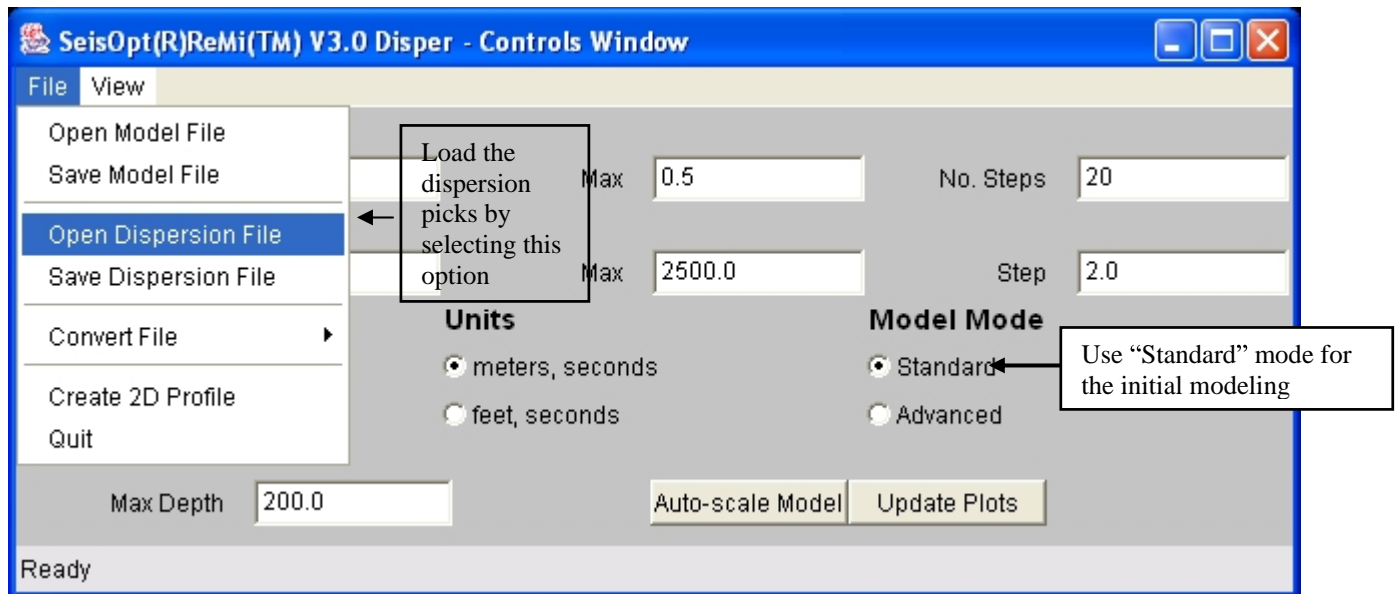
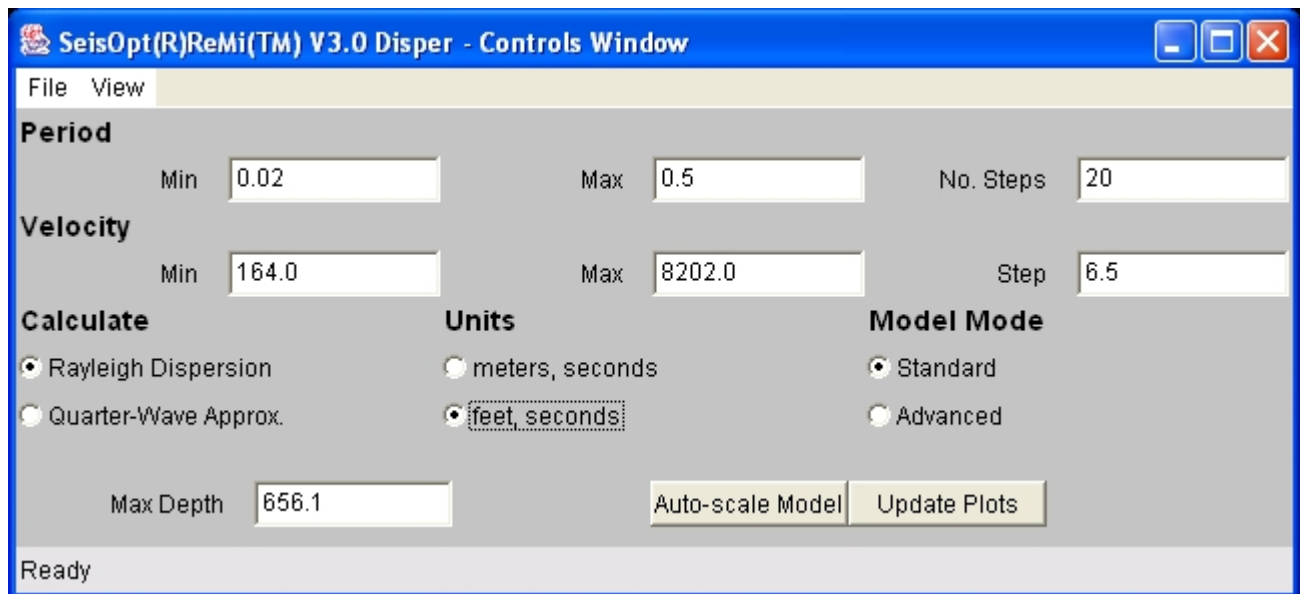

Figure 50: Choose the Open Dispersion File option to load the dispersion picks
Figure 53: Select 'feet, seconds' to do the modeling in units of feet/second
Window' (Figure 50). You can also load the file using the "Open Dispersion File" under the "File" menu in the 'Dispersion Curve' window. If you plan to model the velocity in units of feet/second, make sure you toggle the 'Units' option to that in the 'Controls Window' (Figure 53). It is recommended that the modeling be done using the "Standard" model mode first. If P-wave velocities are available, then the shear-wave velocities can be refined in the "Advanced" model mode.
- If you wish to model the velocities in feet/sec, toggle the 'Units' option in the 'Controls Window' to feet per second (Figure 53). The velocities displayed in the 'Model Profile' (Figure 54a) and the 'Dispersion Curve' window will change accordingly (Figure 54a). Note that the 'Velocity Step' in the 'Controls Window' will also change. It is recommended that this value not be changed during processing. The only time this might have to be changed is if the shear-wave velocities are very low (<100 m/s) and if the interactive modeling fails to fit the picked picks. If such a situation arises, contact support@optimsoftware.com for suggestions.